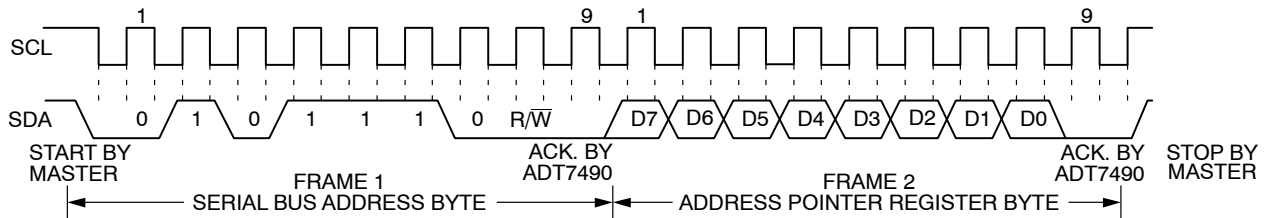

Figure 19. Writing to the Address Pointer Register Only
1. If the ADT7490 address pointer register value is unknown or not the desired value, it must first be set to the correct value before data can be read from the desired data register. This is done by performing a write to the ADT7490 as before, but only the data byte containing the register address is sent because no data is written to the register. This is shown in Figure 19.